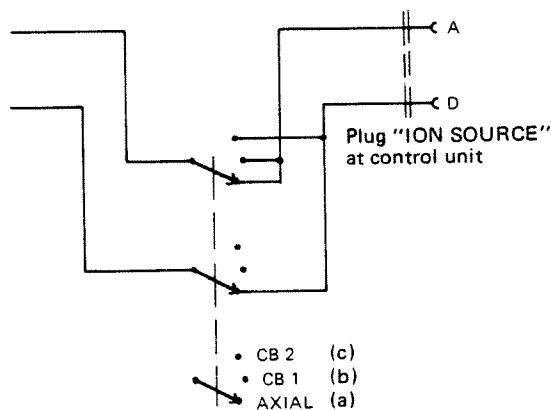

Fig. 5.5.
switch has to be wired as shown in Fig. 5.5. In position (a) the axial beam ion source may be used, whereas in position (b), cathode (1), and in position (c), cathode (2) of the Cross-Beam Ion Source will be energized.